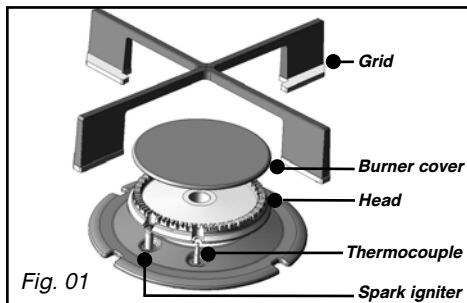

Fig. 01
– **Use a flexible metal hose** (stainless steel) with **screw-on mechanical** connectors (compliant with the NF D 36-125 standard) with an unlimited guarantee (Fig. 01).
– Remove the pan supports, heads and covers from all burners (Fig. 01).
– Select touch control . Whilst keeping your finger on this control, press touch control  (Fig. 01).